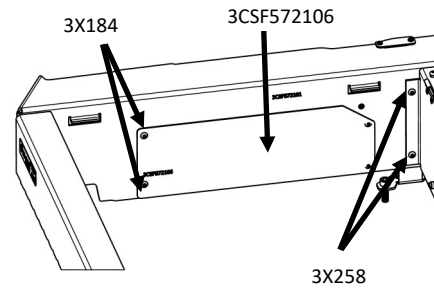

Figure 8
1. Locate the Rear Driver Side Cover Plate [3STF572114], Rear Passenger Side Cover Plate [3STF572116], Front Cover Plates [3STF572111], and (8) [3X299] #8 X 3/4" Self Drilling Philips Head Screws.
2. Install Cover Plates as shown in Figure 8. If vehicle has Cargo Security Cover, Rear Cover Plates will not be used.
3. Locate (2) [3CSF572106] Side Access Cover Panels, (4) [3X258] 1/4"-20x1/2" button head cap screws, and (4) [3X184] 1/4"-20x3/4" button head screws.
4. Install Side Access Cover Panel on Driver Side Panel with chamfered corner towards the front using (2) 1/4"-20x1/2" screws on front two holes and (2) 1/4"-20x3/4" screws on the two rear holes. Repeat for passenger side (Figure 8).